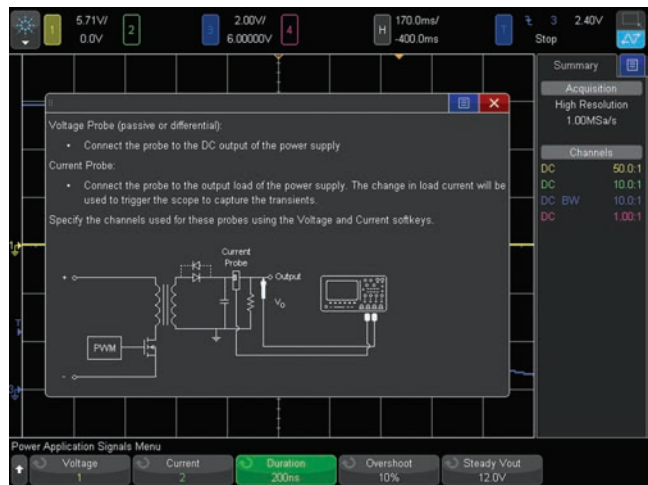

Figure 33: Transient Response connections diagram in the Signals menu.
5. Connect the current probe between the scope's channel-2 input to the output current signal on your device under test as illustrated in the on-screen connections diagram shown in Figure 33. If using Agilent's SMPS training kit, connect to the **J3** current loop in the direction indicated on the demo board. Note that the current-direction arrow on the current probe should be facing down towards your bench.